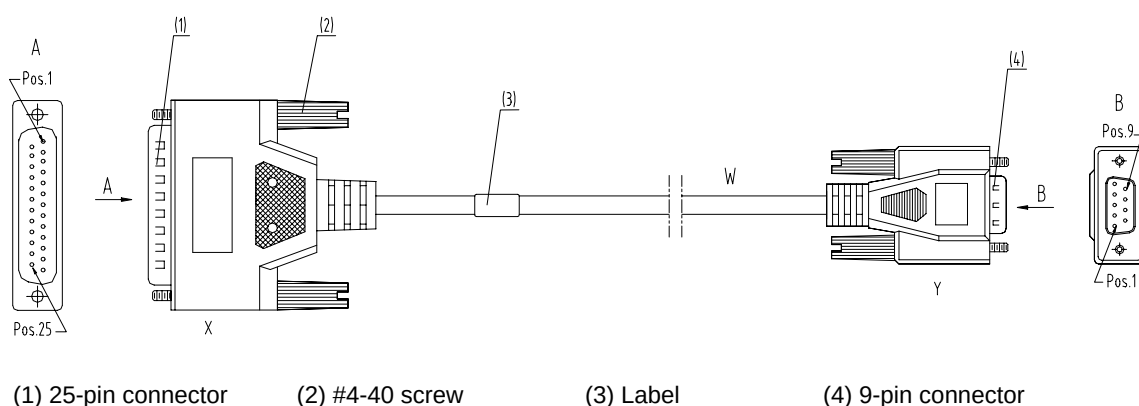

Figure 4-20 Structure of the EAC data cable
- 4) Insert the naked cable cores to the –48 V cable connection hole and GND cable connection hole respectively at the top of the cabinet, as show in Figure 4-20.